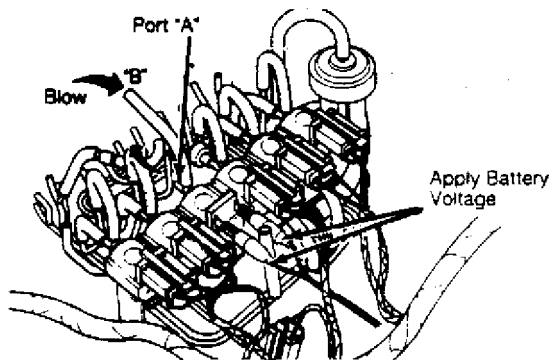

Fig. 2: Testing Relief Solenoid Valve
- 1) Disconnect vacuum sensing tubes from relief solenoid valve and vacuum pipe. Blow through solenoid valve from vacuum sensing tube "B" in Fig. 2. Air should pass through valve and escape from port "C".
valve and vacuum pipe. Blow through switching valve from vacuum sensing tube "B". See Fig. 2. Air should pass through valve and escape from port "C".